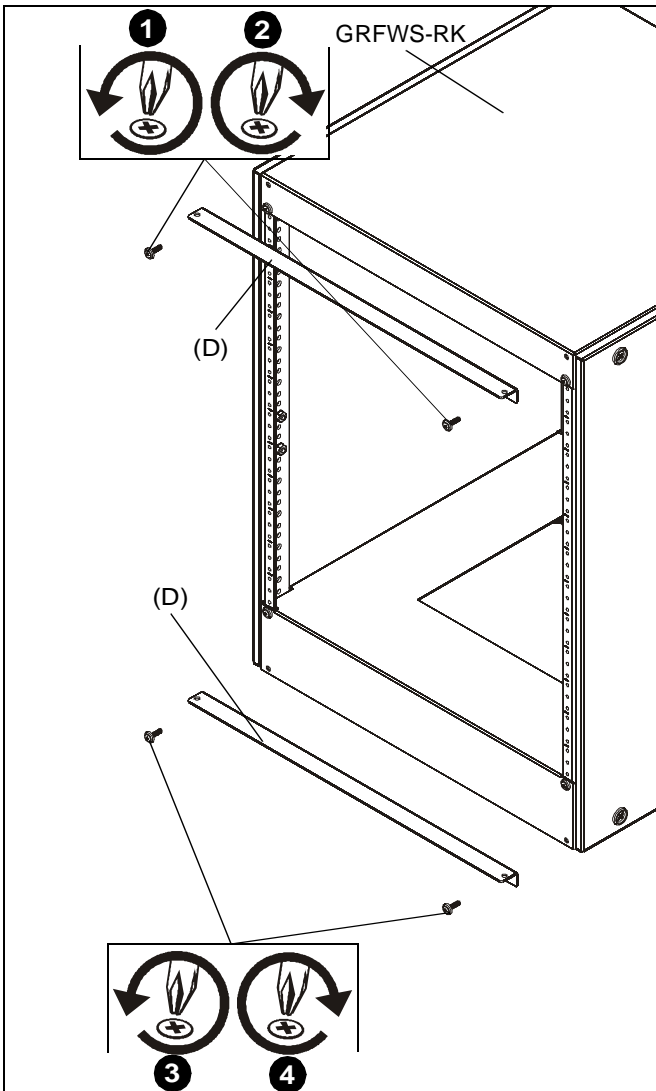

Figure 1
1. Remove top two screws from front of GRFWS-RK rack. (See Figure 1)
2. Use two removed screws (with preinstalled washers) to secure door brace (D) to GRFWS-RK rack. (See Figure 1)
3. Remove bottom two screws from front of GRFWS-RK rack. (See Figure 1)
4. Use two removed screws (with preinstalled washers) to secure door brace (D) to GRFWS-RK rack. (See Figure 1)